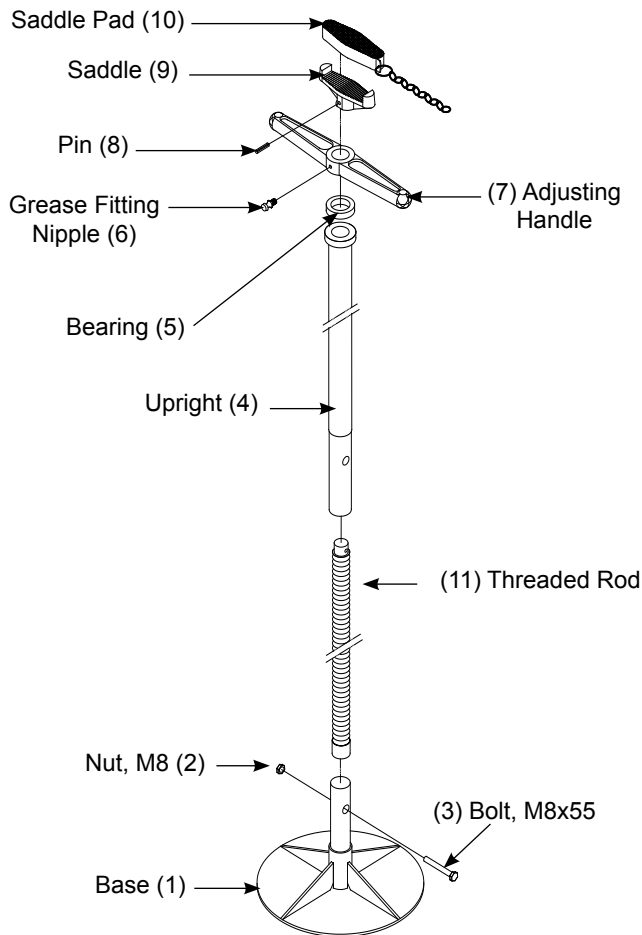

Figure 1 - 31500 Nomenclature
1. Make sure all parts are present (see Fig. 1 & 2). If any parts is missing or damage, do not attempt to assemble, install or operate the product. Contact Customer service.
2. Begin assembly by inserting smaller end of threaded rod (11) through the bottom of upright (4), allowing small end of threaded rod to project out of the top of upright.
3. Place bearing (5) over the threaded portion, then spin the adjusting handle (7) clockwise onto the threaded rod.
4. Saddle (9) can now be fastened by inserting the pin (8) through saddle & threaded rod (11).
5. a. For Model 31500 (see Fig. 1):
Parts List: (see Fig. 1 & 2 for reference number.)